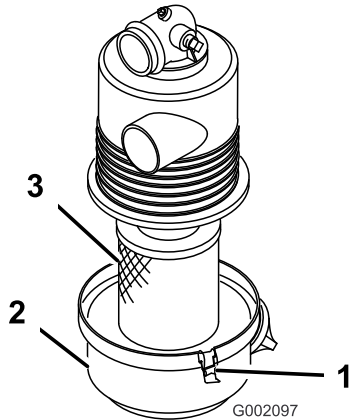

Figure 19
1. Check the air cleaner body for damage, which could possibly cause an air leak. Ensure the cover is sealing around the air cleaner body (Figure 19).
2. Release the latches securing the air-filter cover to the air-filter housing (Figure 19).
3. Separate the air-filter cover from the air-filter housing, and clean the inside of the cover (Figure 19).
3. Insert the air-filter element into air-filter housing (Figure 19).
4. Align the air-cleaner cover with the air-cleaner housing (Figure 19).
5. Secure the cover to the housing with the latches (Figure 19).